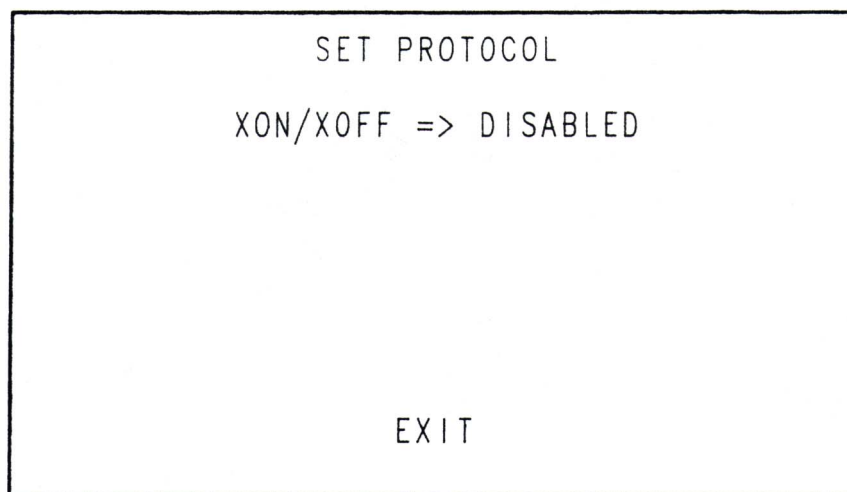

Figure 2-8
- 4) You should now be at the screen that is used to enable or disable XON/XOFF protocol. If the display doesn't look as shown in Figure 2-8, touch the word ENABLED to change it to DISABLED. Touch EXIT and you're back to the original screen; the setup of VuePoint™ III is complete.